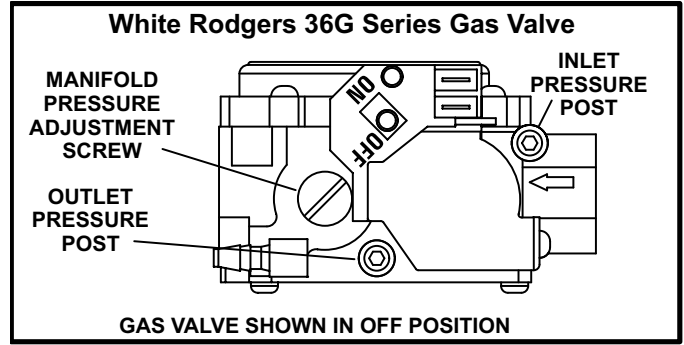

FIGURE 3
Operating the Gas Valve (Figures 3 and 4)
- 8 - *White Rodgers 36G Gas Valve* - Switch gas valve lever to **ON**. See figure 3 for the White Rodgers 36G valve.